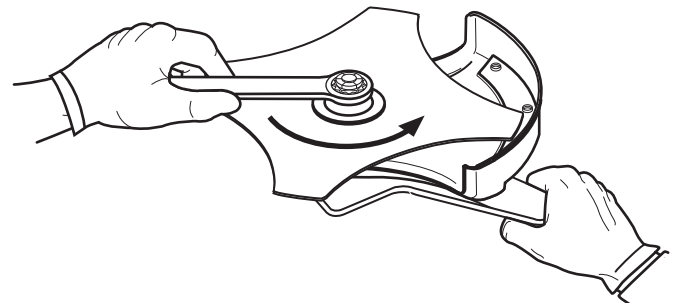

Fig. 18
7. Tighten the nut counterclockwise with a wrench (Fig. 18):